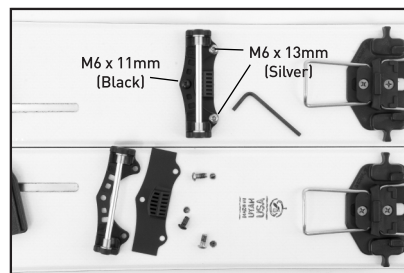

Figure 7
Position Speed Rail Touring Bracket over it's plastic base. Place over touring bracket inserts. Locate (2) M6 x 13mm (silver finish) Pan Head screws over the rear two inserts and loosely thread into place. Thread (1) M6 x 11mm (black finish) Pan Head screw into the forward insert. Fully tighten all screws. Repeat for other half. **(See Figure 7)**